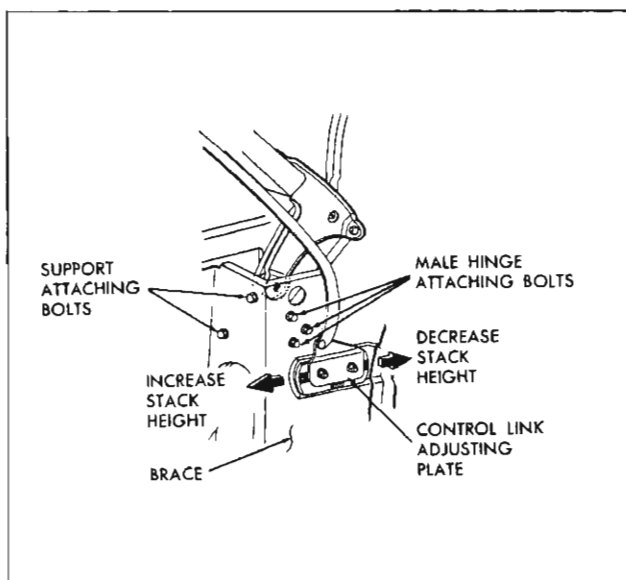

Fig. 122—Adjustment of Control Link Adjusting Plate
- c. Loosen two bolts securing control link adjusting plate sufficiently to permit adjustment of plate (fig. 122).
- b. Loosen male hinge assembly bolts (fig. 122).
- b. Loosen male hinge assembly attaching bolts (fig. 122).